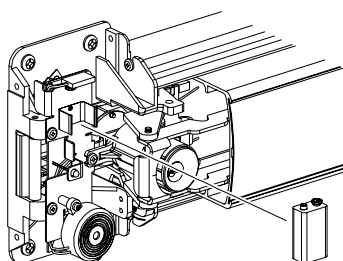
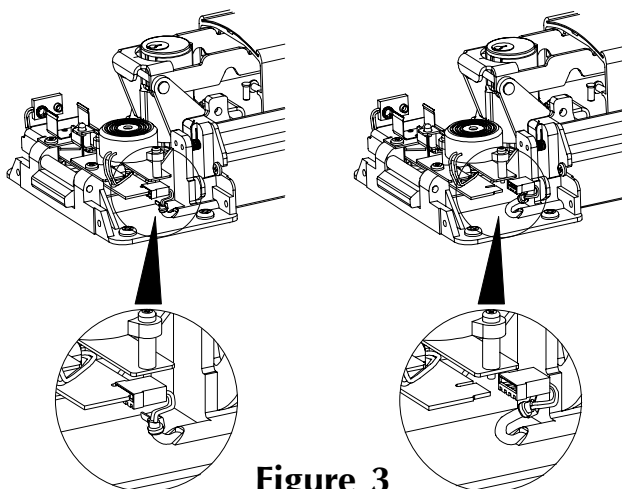

Figure 2
Figure 3
- 3 Remove 9 V battery (Figure 2). If using PT790 Plug-in Transformer Option, disconnect transformer cable from PC board (Figure 3).